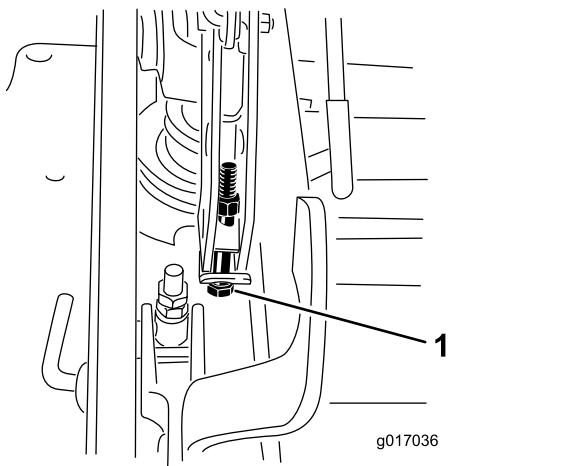

Figure 90
12. If the deck is too low, tighten the single-point adjustment bolt by rotating it clockwise. If the deck is too high, loosen the single-point adjustment bolt by rotating it counterclockwise (Figure 90).